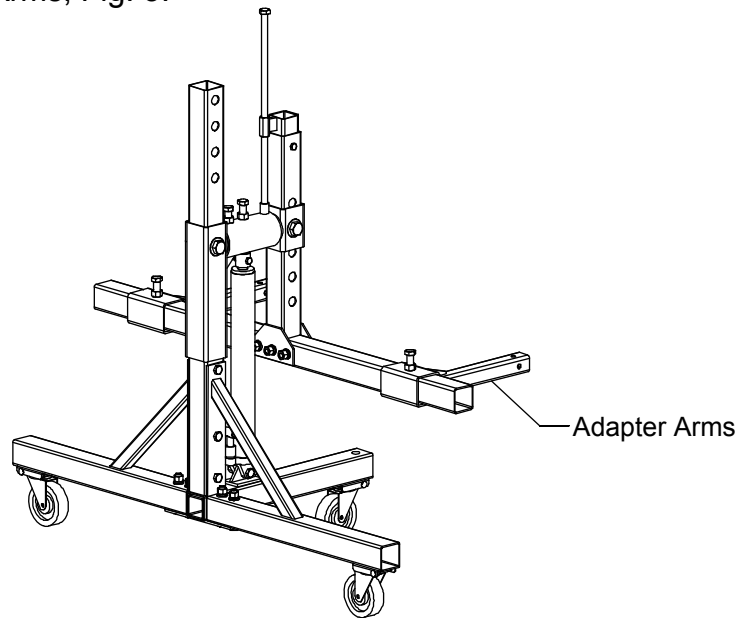

FIG. 3
3. Install Adapter Arms, Fig. 3.